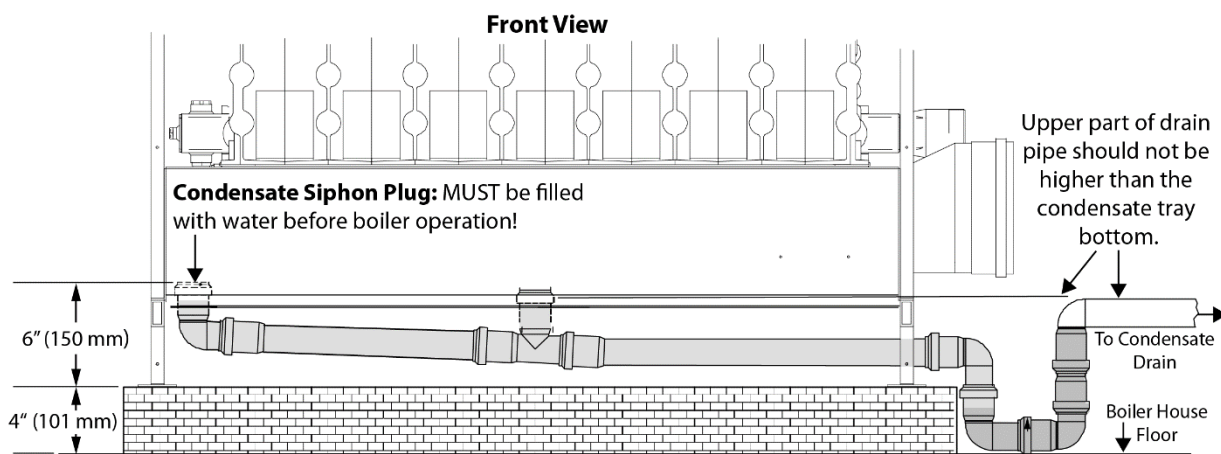

Figure 4-18: MODULEX EXT Condensate Piping
The liquid column, inside the condensate siphon, (see Condensate Siphon Plug in Figure 4-18) needs to be filled with water after installation. The minimum height of the water in the column, when all the fans are in operation, must be at least 25 mm (1 in.).
If it is not possible to use a 4" (101mm) base or housekeeping pad on which to place the boiler, install the boiler on the floor and provide a well or trough (minimum of 4" - 101 mm deep) in which to lodge the U of the condensate piping. See Figure 4-18.
- Before commissioning the boiler, fill the condensate drain pipe with water, at the dedicated filling-up plug. See Figure 4-18.